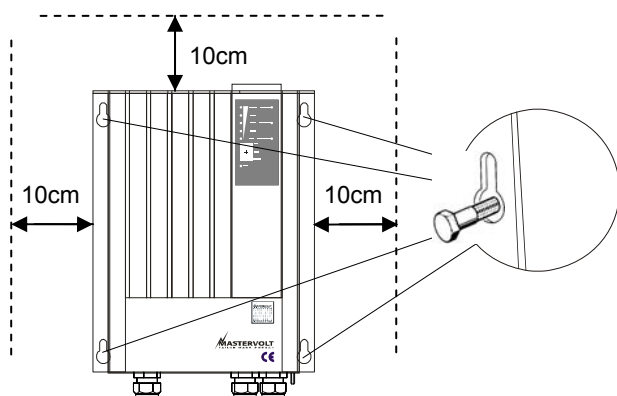

Figure 19: mounting of the cabinet
- 1 Determine the four mounting spots on the basis of the outline drawings (figure 19)